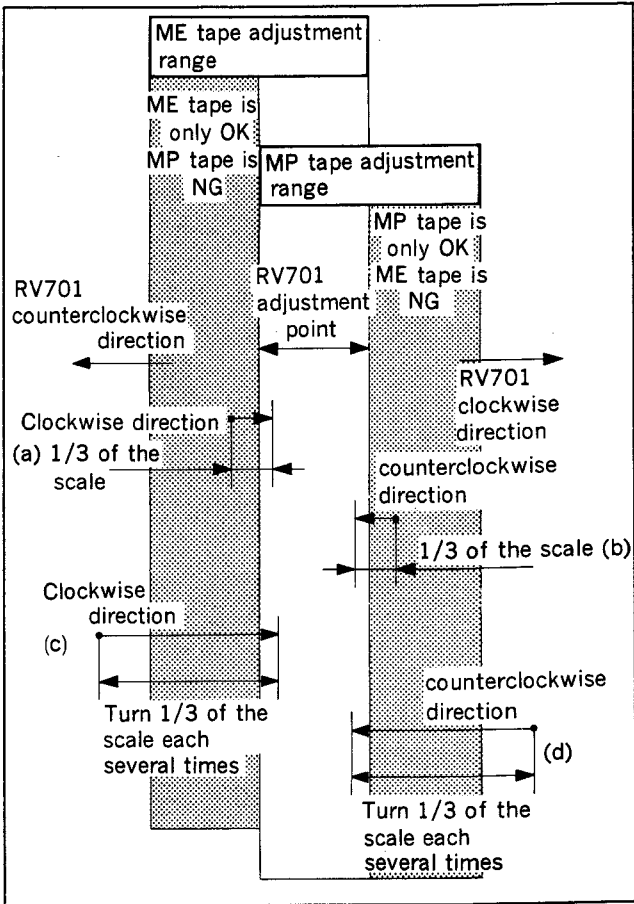

Fig. 6-9-7 Adjustment range for RV702 and RV703
If not to meet the position of the potentiometer, perform fine adjustment RV701 because of the adjustment condition of RV701 is shown in Fig. 6-9-7 (a) thru. (d).
- 18-2. If not to meet the specification, turn RV701 to 1/3 of the scale once more to clockwise direction (See Fig. 6-9-7 (a)).
- 18-5. If not to meet the specification, turn RV701 to 1/3 of the scale once more to counterclockwise direction (See Fig. 6-9-7 (b)).
If the PCM RF wave form fluctuation for ME tape is least than for MP tape, adjustment position of RV701 is shown in Fig. 6-9-7 (c).
- 18-8. If the PCM RF wave form fluctuation for MP tape is least than for ME tape, adjustment position of RV701 is shown in Fig. 6-9-7 (d).